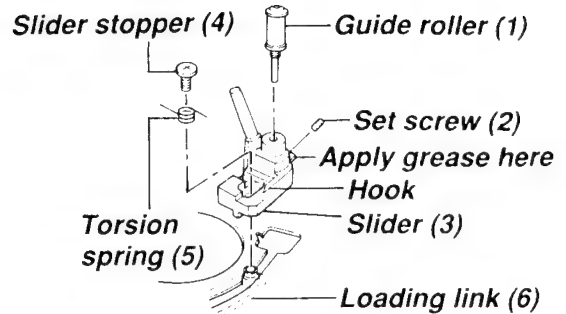

Fig. 4-3-5
1. Loosen the set screw (2), shown in the Fig. 4-3-5.
2. Turn the guide roller (1) counterclockwise and remove it.
3. Remove the slider stopper (4) and the torsion spring (5), shown in Fig. 4-3-5.
5. Replacement is made by reversing above procedures. When mounting the torsion spring and the slider stopper, hold the rear side of the loading link (6), shown in Fig. 4-3-5 from the cylinder mounting hole.
- When the slider is replaced, always apply grease to the slider receptacle as shown in Fig. 4-3-5.
(8) S, T-loading torsion springs replacement
3. Remove the slider stopper (4) and the S, T-loading torsion springs (5) shown in Fig. 4-3-5. with the slider set to the unloading state.
4. When replacing, use above steps in reverse order. Remount the S, T-loading torsion springs while holding the rear side of the loading link (6), shown in Fig. 4-3-5.